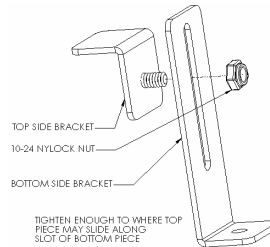

Figure 5
3. Using Nylock nuts assemble side brackets (4 total) consisting of a top and bottom (see Figure 5), making sure nut is loose enough to slide top piece in order to adjust to thickness of CPU.